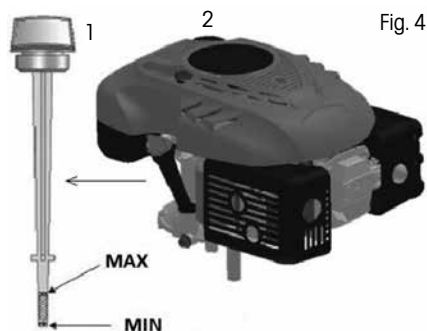

Fig. 4
2. Pull the cap with the oil dipstick out of the oil refill hole (Fig.4 – point 1).
4. The oil level must be between the upper (MAX) and lower (MIN) limit (Fig.4 – point 1).
After unscrewing the fuel tank cap (Fig 4 – point 2), add the fuel, pouring it in all the way up to the collar of the fuel tank but do not overfill it.